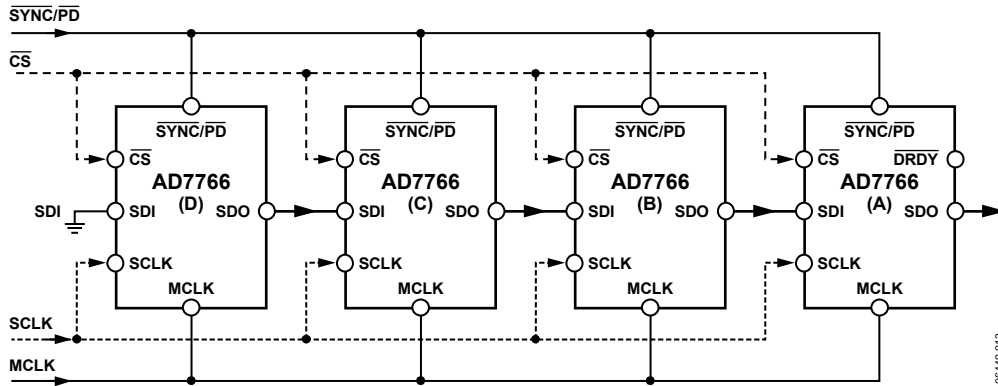
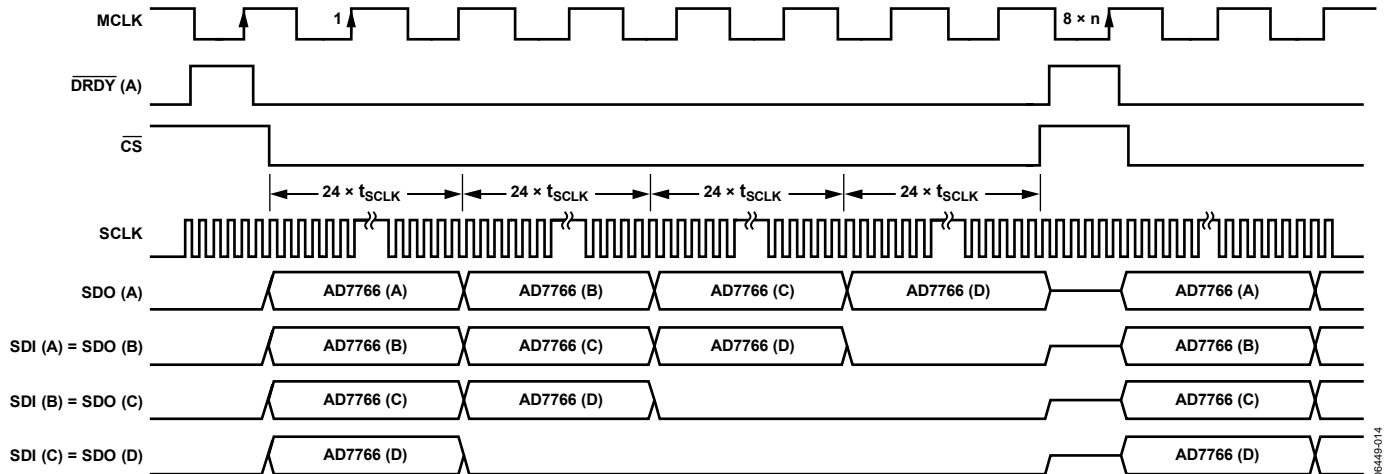

Figure 36. AD7766 Daisy Chain Configuration with Four AD7766 Devices
Figure 37. AD7766 Daisy Chain Timing Diagram ( $n = 1$  for AD7766,  $n = 2$  for AD7766-1,  $n = 4$  for AD7766-2) Driving the AD7766
The block diagram in Figure 36 shows the way in which devices must be connected in order to achieve daisy chain functionality. This scheme operates by passing the output data of the SDO pin of an AD7766 device to the SDI input of the next AD7766 device in the chain. The data then continues through the chain until it is clocked onto the SDO pin of the first device on the chain.
An example of a daisy chain of four AD7766 devices is shown in Figure 36 and Figure 37. In the case illustrated in Figure 36, the output of AD7766 (A) is the output of the full daisy chain. The last device in the chain (AD7766 (D)) has its serial data in (SDI) pin connected to ground. All the devices in the chain must use common MCLK, SCLK,  $\overline{\text{CS}}$ , and SYNC/PD signals.
After applying a  $\overline{\text{SYNC/PD}}$  pulse to all the devices, there is a delay (as listed in Table 7) before valid conversion data appears at the output of the chain of devices. As shown in Figure 37, the first conversion result is output from the device labeled AD7766 (A). This 24-bit conversion result is followed by the conversion results from the devices B, C, and D, respectively, with all conversion results output in an MSB first sequence. The stream of conversion results is clocked through each device in the chain and is eventually clocked onto the SDO pin of the AD7766 (A) device. The conversion results of the all the devices in the chain must be clocked onto the SDO pin of the final
As shown in Figure 36, the number of SCLK falling edges that occur during the period when  $\overline{\text{DRDY}}$  (A) is active low must match the number of devices in the chain multiplied by 24 (the number of bits that must be clocked through onto SDO (A) for each device).